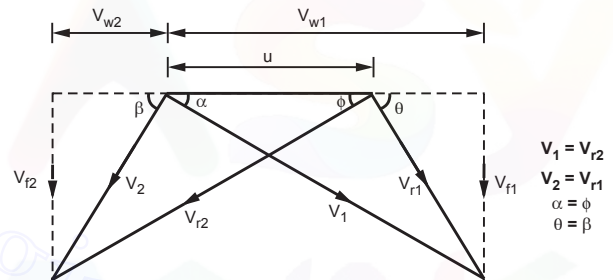

Fig. 3.34
- From the velocity triangle for reaction turbine as shown in Fig. 3.34.